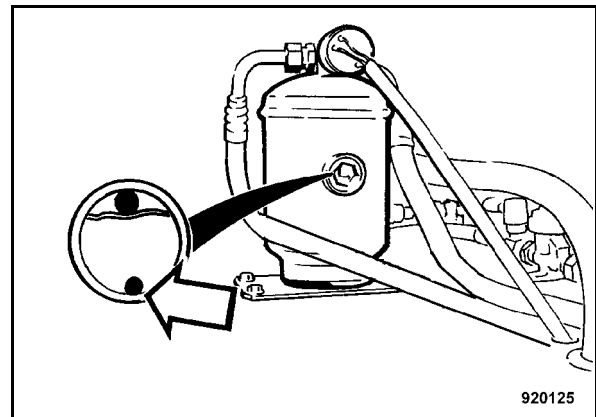

Fig. 150
- Check the moisture indication pearl (Fig. 150) inside the inspection glass of the drier/collector unit.